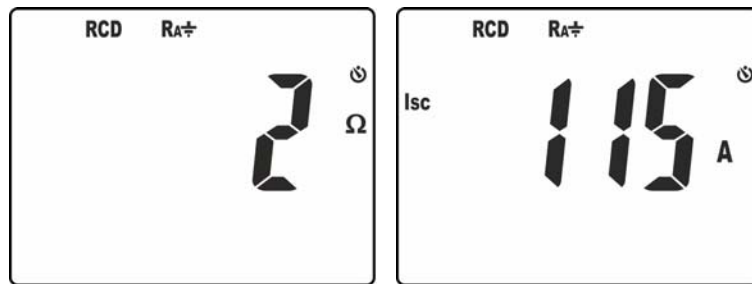

Fig. 22: Results of measurement of overall earth resistance
9. The screen in Fig. 22 – left side shows the value of overall earth resistance. Press keys / or  to display the value of assumed short-circuit current **Isc** (see § 9.3)